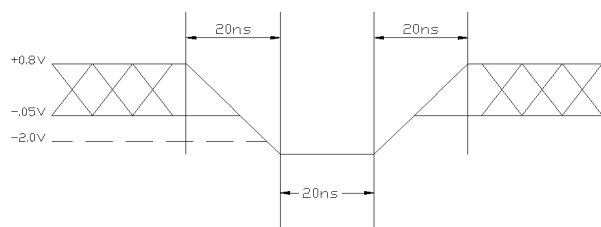
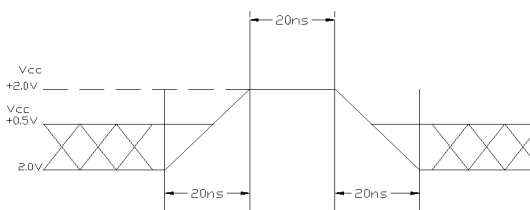

Figure 1.
Figure 2.
1. Minimum DC voltage on input or I/O pins is -0.5V. During Vaoltage transitions, inputs may overshoot Vss to -2.0V for periods of up to 20 ns. See Figure 1. Maximum DC voltage on input or I/O pins isVcc +0.5V. During Voltage transitions, inputs may overshoot Vcc to +2.0V for periods of up to 20 ns. See Figure 2.
2. Minimum DC input voltage on A9 pin is -0.5V. During voltage transitions, A9 pins may overshoot Vss to -2.0V for periods of up to 20 ns. See Figure 1. Maximum DC input voltage on A9 is +12.5V inputs which may overshoot to